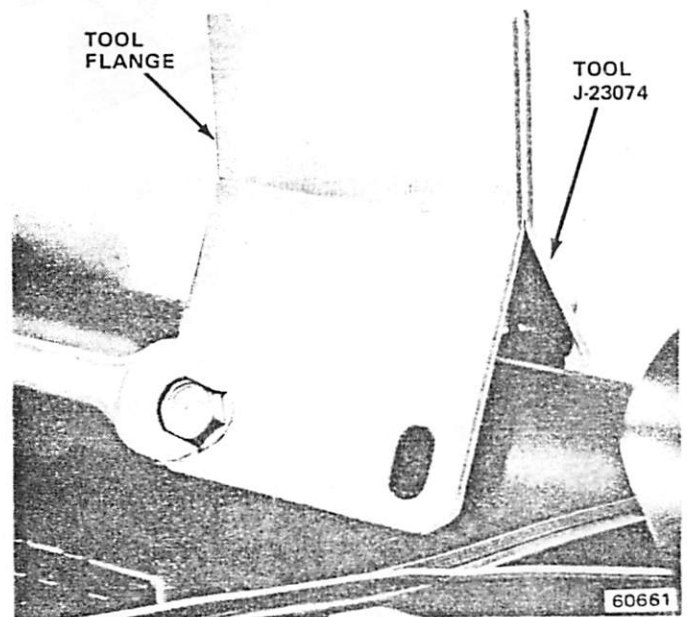

Fig. 2J-5 Steering Column Support Fixture Installation
**NOTE:** Steering column removal is not necessary if only the lock plate cover, lock plate, steering shaft snap ring, canceling cam, turn signal switch, upper bearing preload spring, or lock cylinder are to be serviced (fig. 2J-4). However, the column must be removed in order to service any of the remaining components. If the column is removed, remove the column-to-instrument panel mounting bracket and install Support Fixture J-23074 (fig. 2J-5). Mount the column in a vise by clamping the support fixture flange in the vise.